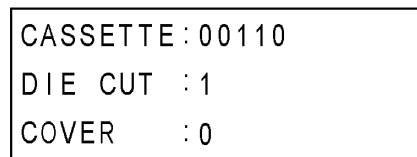

Fig. 8
- (1) Press the "RET" key. The display shifts to one as shown in Fig.8.
- (2) The machine checks the functions of the cassette sensor, the die cut cassette sensor and the cover open sensor and displays the current state. (Push the switch; then "1" is displayed, and release it; then "0" is displayed.)
- (3) Press the "RET" key while the LCD displays as shown in Fig.8 after closing the cassette cover. The display shifts to the LCD Display Check Mode as shown in Fig.9.